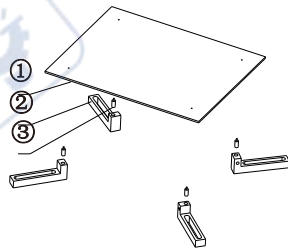
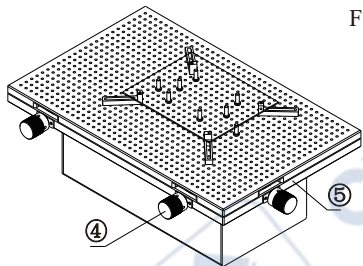

Fig. 5
Fig. 6
- (1) Take a PCB board to be printed ① to measure the size of the positioning hole as shown in Fig. 5.
- (2) Find out the corresponding PCB plate hole size positioning needle from the toolbox ③.
- (3) Mount the positioning needle to the positioning pin holder ②.
- (4) Mount the positioning pin holder to the workbench.
- (5) The PCB board is fixed to the workbench plate against the positioning pinhole, at which point it is necessary to repeatedly lift the steel mesh alignment roughly, lock position pin holder after adjustment.
- (6) Then release the locking knob ⑤ under the workbench, passing three spinners ④ around and after. Repeated adjustment until the exact position-to-position rear lock is shown in Fig. 6.
- (7) When printing a double panel, the randomly configured thimble is secured below the PCB board to avoid the placement of components. As shown in Fig. 6 below.